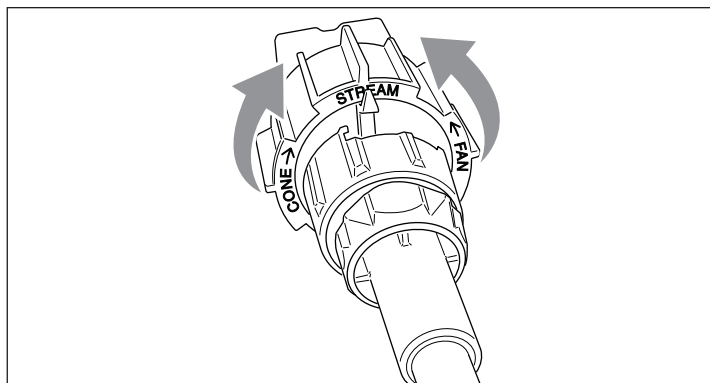

Figure 8. Using the 3-in-1 Nozzle
- The white pointer will align with the spray pattern selected. See Figure 8, Off position not marked.